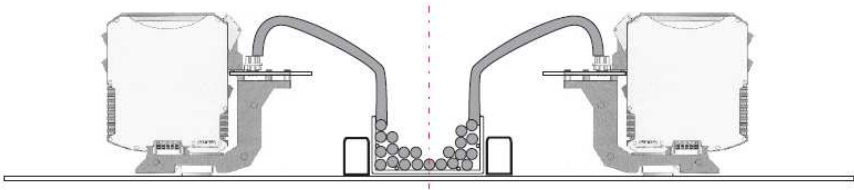

Fig. 2 View (cross section) of the pac-Carrier and cable duct
4. If you do not follow the recommended cabinet design, ensure that the air may flow around the devices. There has to be sufficient space between the devices and the cable ducts. We recommend a distance of minimum 6 cm (Please refer to figures 2 and 3). We recommend to use spacer in order to place the devices better into the air flow in the cabinet.